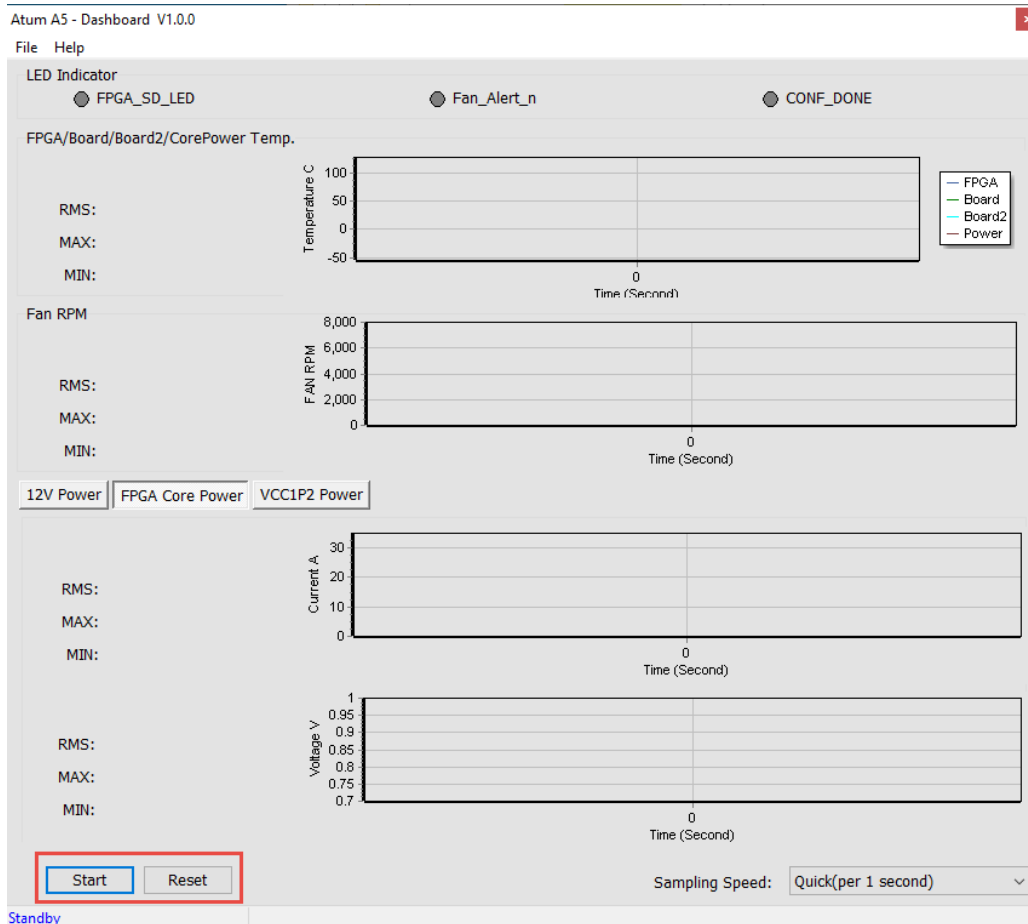

Figure 3-7 Start and Reset button
- **Start/Stop:** As shown in Figure 3-7, there is a **Start** button at the bottom-left of the GUI window. Click it to run the program (**Start** will change to **Stop**), it will show the Atum A5 board status. Users can press **Stop** button to stop the status data transmission and display.